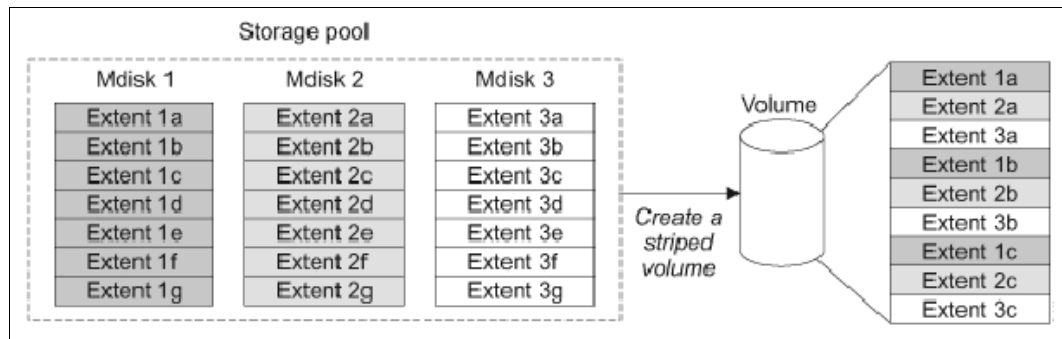

Figure 6-1 Striped extent allocation
- ▶ A striped volume contains a volume copy that has one extent allocated in turn from each MDisk that is in the storage pool. This option is the default, but you can also supply a list of MDisks to use as the stripe set, as shown in Figure 6-1.